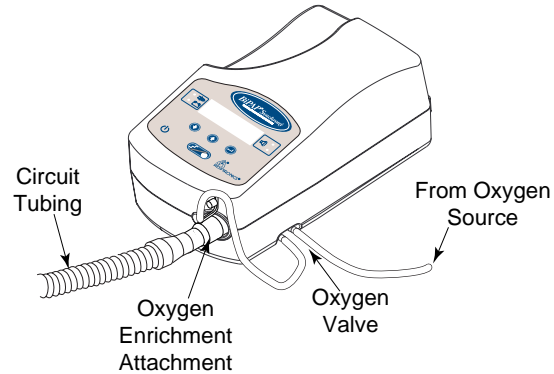

Figure 8-2 Attaching oxygen tubing to the Synchrony
- Step 1** As shown in Figure 8-2, attach oxygen tubing to the rear oxygen valve port. The oxygen valve prevents oxygen from entering the Synchrony enclosure when the Synchrony is stopped.